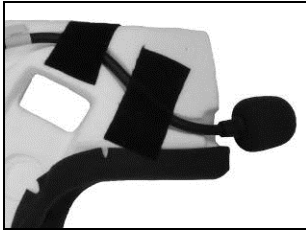
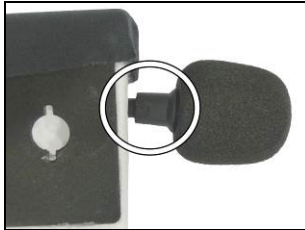

Fig. 44
Fig. 45
- Take the polystyrene cheek pad (left side) and position the microphone in the special housing, as illustrated in Fig. 44, being careful that the side of the microphone support with the letter “n” is facing towards the inside of the helmet (Fig. 45).
- Secure the microphone to the cheek pad using the “microphone securing stickers”, see Fig. 44.